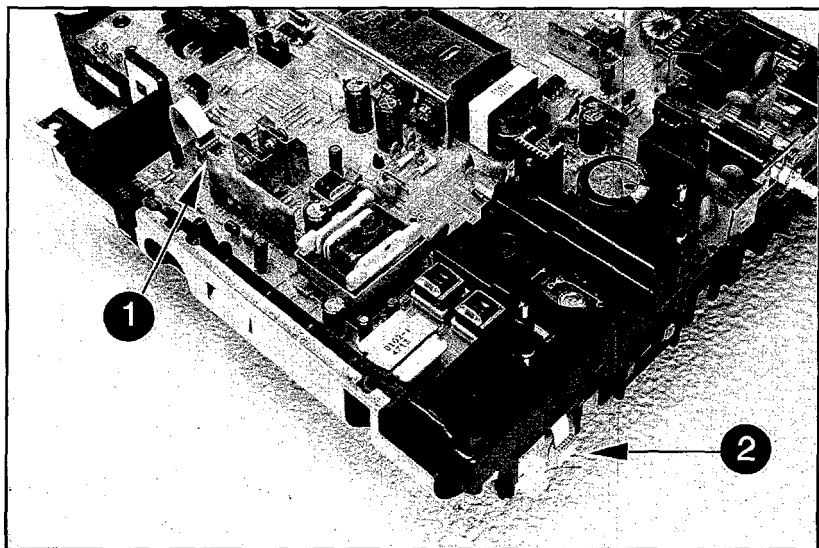

Figure 26 Tray 1 Interconnect PCA and Cable 302
8. Disconnect Tray 1 Interconnect PCA (callout **2** in Figure 26) and cable 302 (callout **1** in Figure 26) from the DC Controller PCA.